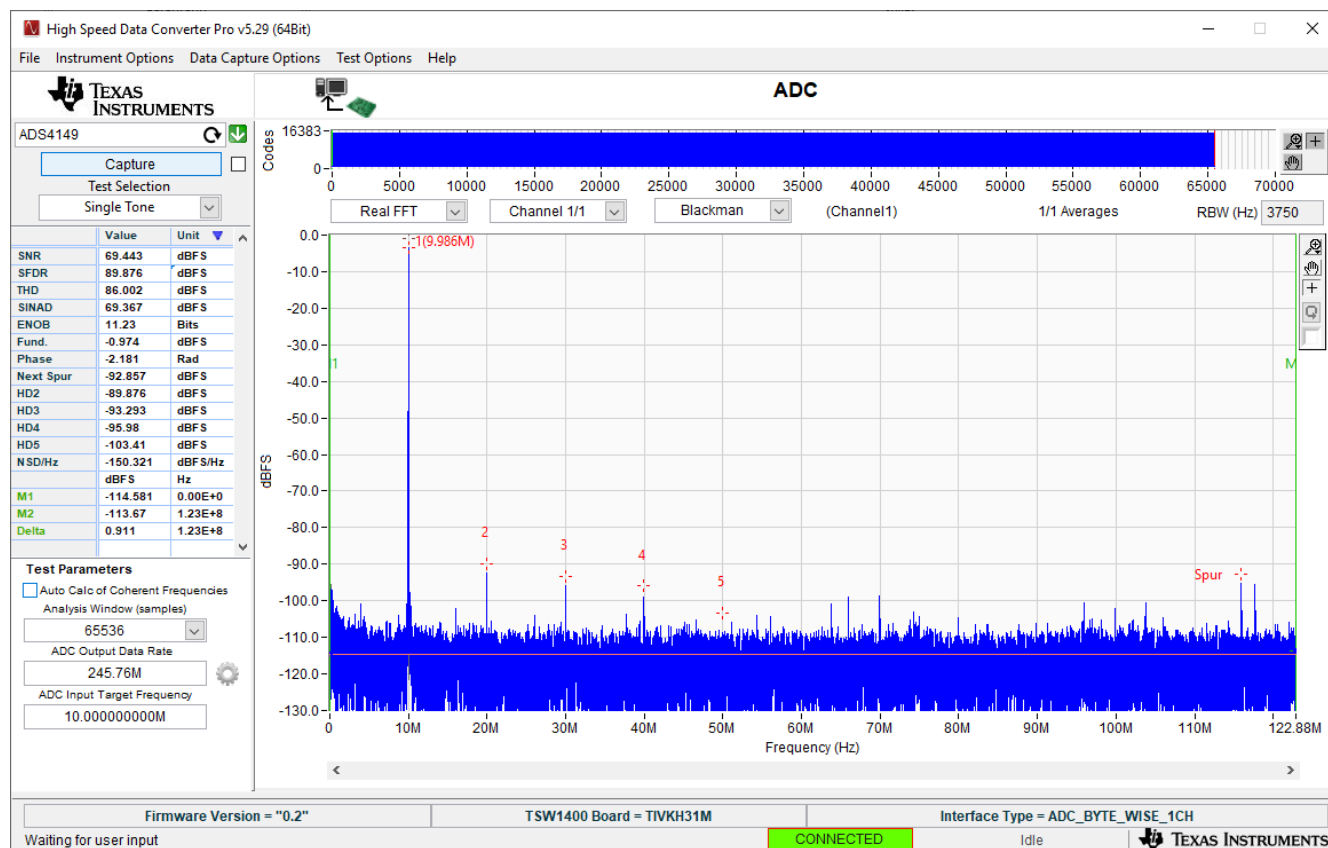

Figure 5-2. Quick-Setup Test Result.
Option 1 supplies the transformer-coupled input from J6 to ADC. This configuration is the default on the EVM. The test result using this option is shown in Figure 5-2. A double-transformer input circuit is used to provide better differential to single-ended conversion than a single transformer can provide. The transformers used are both of a 1:1 turns ratio, so termination of the 50-Ω input signal path after the transformers can be two 25-Ω resistors terminated to the common-mode voltage (VCM) provided by the ADC.
- Measurement is illustrated in Figure 5-2.
The user can make the jumper setting as mentioned in Table 1-1. In this configuration, the EVM uses an external clock source from J19 and a direct input signal J6 to the ADC. This setup uses Power Option 2 (Table 2-2), Clock Option 1 (Table 2-4), and Analog Input Option 1 (Table 2-6), which is the default on the EVM. Figure 5-2 shows the ADC performance capture using TSW1400 with the input signal of a 10-MHz frequency and clock frequency of 245.76 MHz with ADS4149.